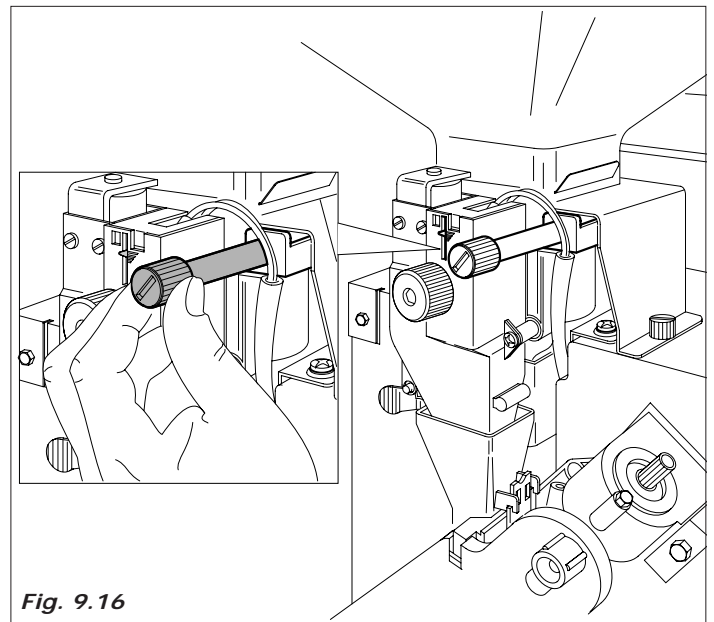

Fig. 9.16
- *Regulation of the degree of grinding.* Turn the screw (fig. 9.16) to obtain the desired results.